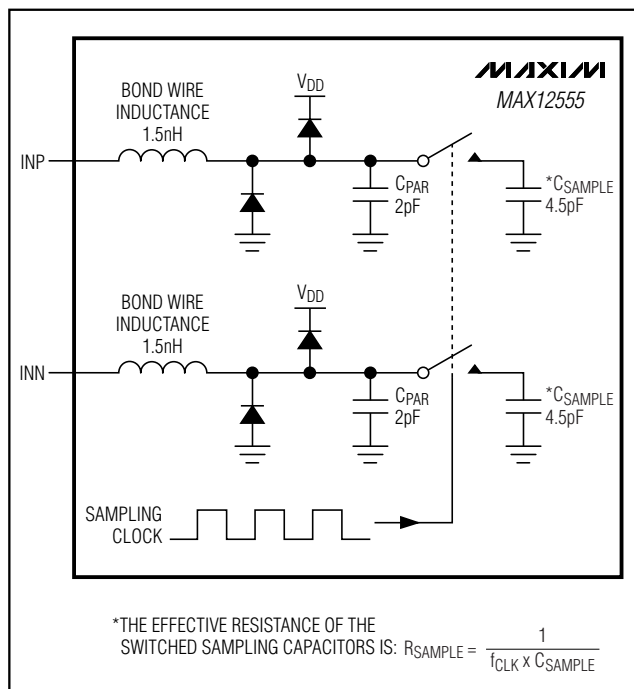
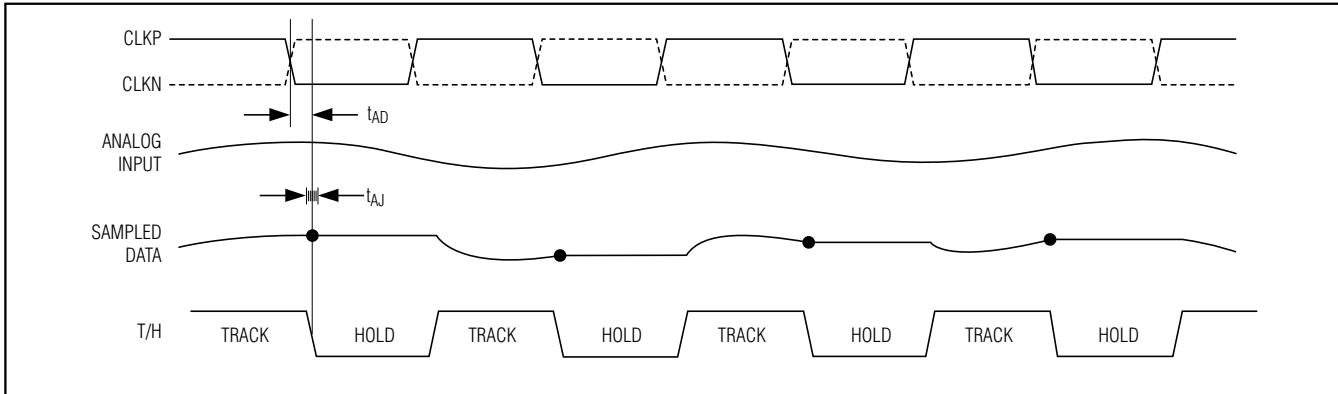

Figure 3. Simplified Input T/H Circuit
Figure 4. T/H Aperture Timing
Figure 3 displays a simplified functional diagram of the input T/H circuit. This input T/H circuit allows for high analog input frequencies of 175MHz and beyond and supports a common-mode input voltage of  $V_{DD} / 2 \pm 0.5V$ .
The MAX12555 sampling clock controls the ADC's switched-capacitor T/H architecture (Figure 3) allowing the analog input signal to be stored as a charge on the sampling capacitors. These switches are closed (track) when the sampling clock is high and open (hold) when the sampling clock is low (Figure 4). The analog input signal source must be capable of providing the dynamic current necessary to charge and discharge the sampling capacitors. To avoid signal degradation, these
- INP, INN analog inputs are disconnected from the internal input amplifier (Figure 3).